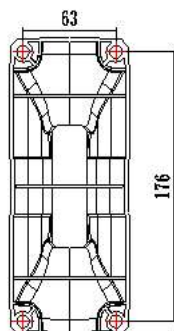

Fig. 1
3. Take the wall bracket as a template to mark the position of screws and drill four holes on the wall. (Fig.1)